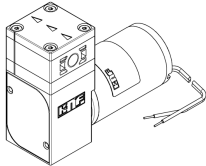

Fig. 10: optimum installation position for one-headed pumps: vertical
- Installation position → Generally speaking, the pump can be installed in any position. The venting and accuracy of one-headed pumps is optimal if installed as shown in the illustration (Fig. 10).